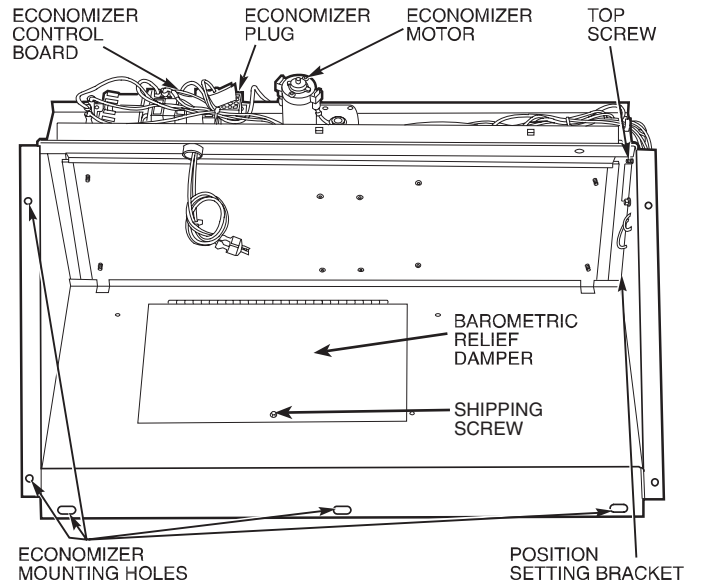

Fig. 14 — Durablade Economizer Installation
5. Economizer is factory-installed in unit and secured with screws. See Fig. 14.
7. Remove existing 12-pin blue and yellow wire jumper plug and store. Insert 12-pin economizer plug into economizer harness. See Fig. 14.